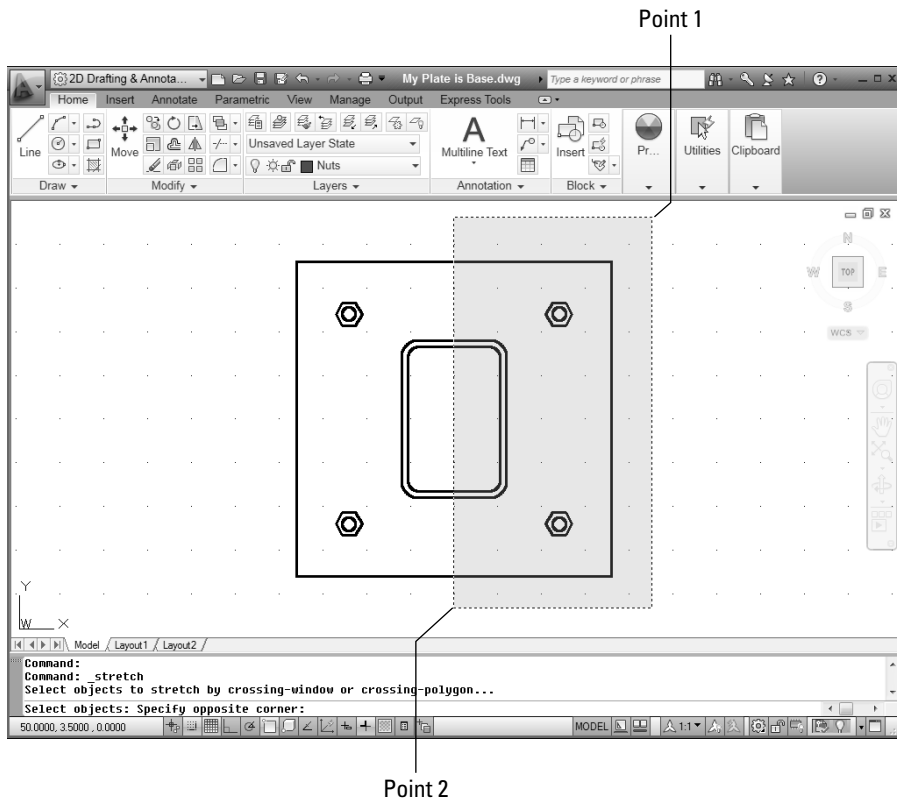

Figure 3-13:
2. Click a point above and to the right of the upper-right corner of the plate (Point 1 in Figure 3-13).
4. Click a point below the plate, roughly under the center of the column (Point 2 in Figure 3-13).
The crossing box must cut through the plate and column in order for the STRETCH command to work (refer to Figure 3-13).